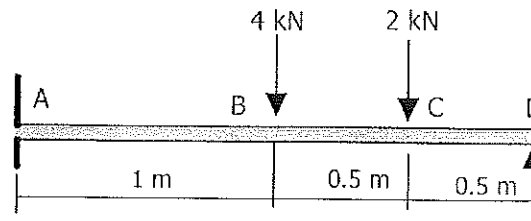

Figure Q2
- (c) Taking W as 5 kN, and the flexural rigidity (EI) of the beam as 800 kNm², find out the angular displacement at A and the vertical deflection at mid span of the beam. (8 marks)
- Q2 (a) Figure Q2 shows a cantilever beam propped at D and carrying two point loads. The flexural rigidity (EI) of the beam is 800 kNm^2 .